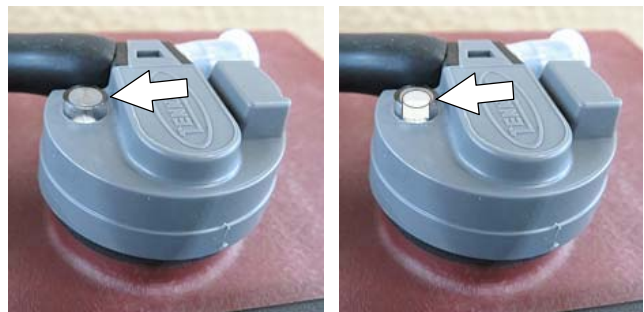

FIG. 129
3. If the level indicator has a low white float add distilled water as described in the following instructions (Figure 129).